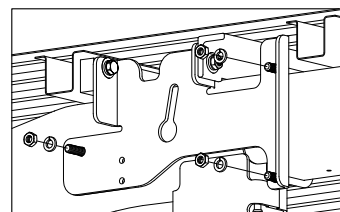

FIGURE C8: View from outside of Driver Side Frame.
5. **Install U-Bolt.** Install the U-bolts from inside the frame. Place the U-bolt against the frame staying under the wiring harness and brake line. While making certain that nothing is between the frame and U-bolt, raise the U-bolt until the top leg is level with the top of the frame rail. Then turn the legs toward to the outside so that the U-bolt straddles the frame and the legs pass through the two holes in the sideplate. Attach the carriage bolt and U-bolt with 1/2" hardware as shown in figure C8. (Do not tighten hardware at this time.)